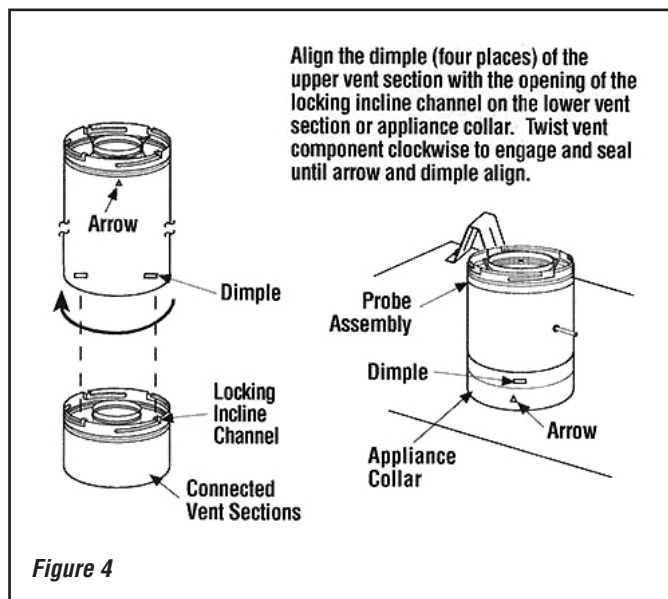

Figure 4
- **Attach the probe assembly to appliance.** The probe assembly (# 11 from Parts List) is of the same design as the unitized concentric pipe components of the SV4.5 Secure-Vent System, featuring positive twist lock connections (see **Figure 4**).
To attach the probe assembly to the appliance collar, align the dimpled end over the collar, adjusting the radial alignment until the four locking dimples are aligned with the inlet of the four inclined channels on the collar (refer to **Figure 4**). Push the probe assembly against the collar until it fully engages, then twist the probe assembly clockwise, running the dimples down and along the incline channels until they seat at the end of the channels. The unitized design of the probe assembly components will engage and seal both the inner and outer pipe without the need for sealant or screws.